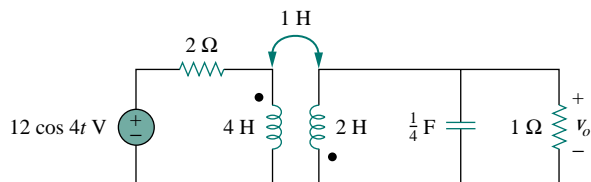

Figure 13.87 For Prob. 13.17.
- 13.17** In the circuit of Fig. 13.87,